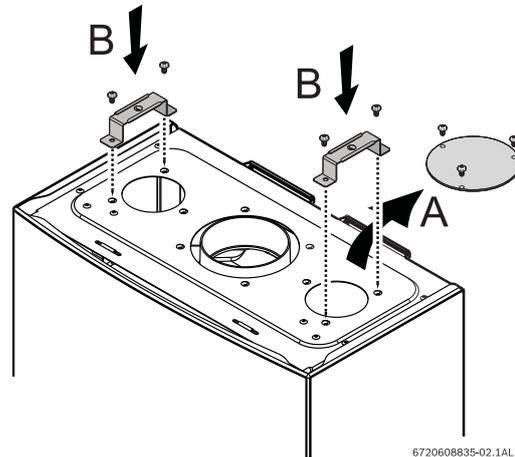

Fig. 4
- ▶ **1.** Remove the cover plate (A) installed on the top of the appliance, as shown in Fig. 4.
- ▶ **2.** Attach the supports (B) to the appliance by fastening with the four provided screws, as shown in Fig. 4.